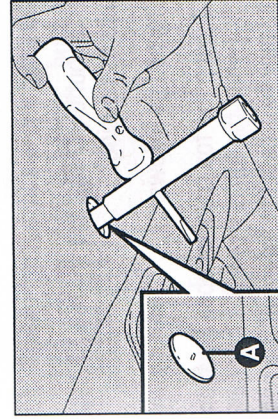

fig. 70
- take out the plastic **A-fig. 70** cap located in the centre of the finishing;
- use the proper tube type key located in the trunk and the screw included in the supply (**fig. 70**) turn the nut counter clockwise to close the front lock of the top;